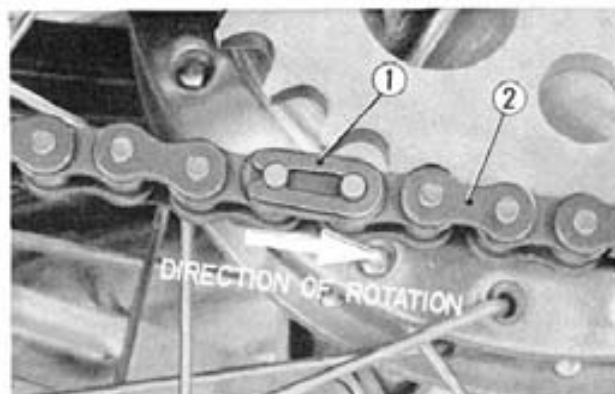

Fig. 13-23 ① Joint clip
2. Remove the joint clip with a pliers to disconnect the chain. (Fig. 13-23)